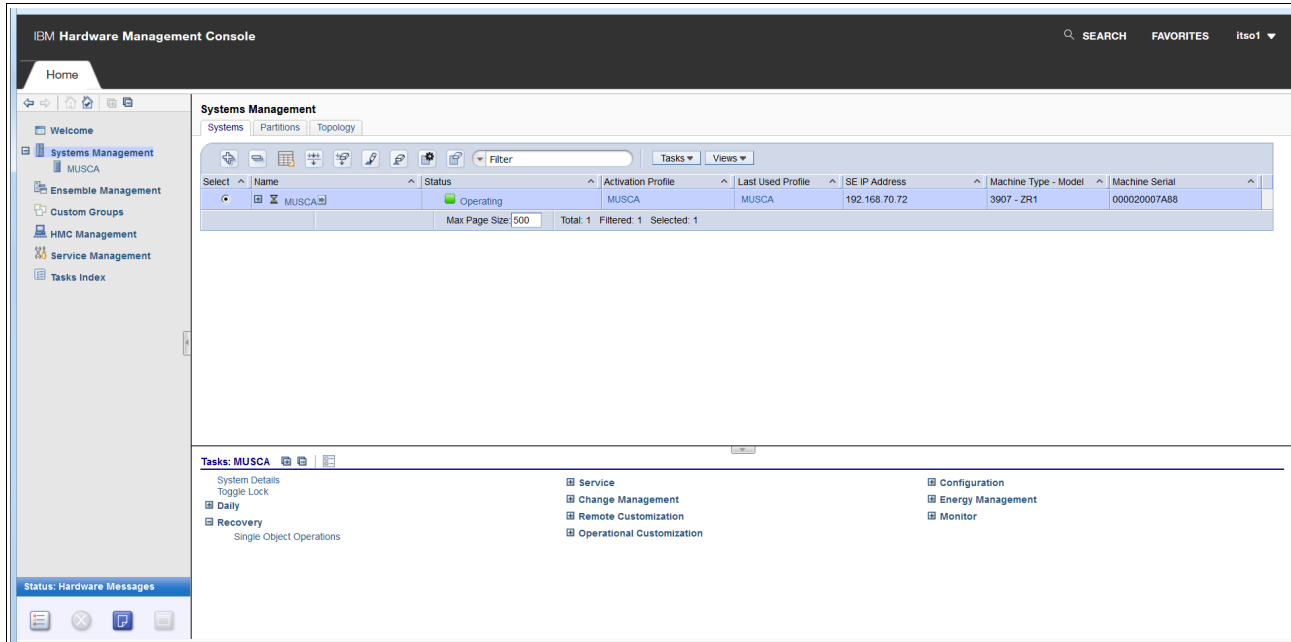

Figure 5-37 Systems Management: Main display
4. On the Tasks window, click **Recovery** to expand it, and select **Single Object Operations** (see Figure 5-37).